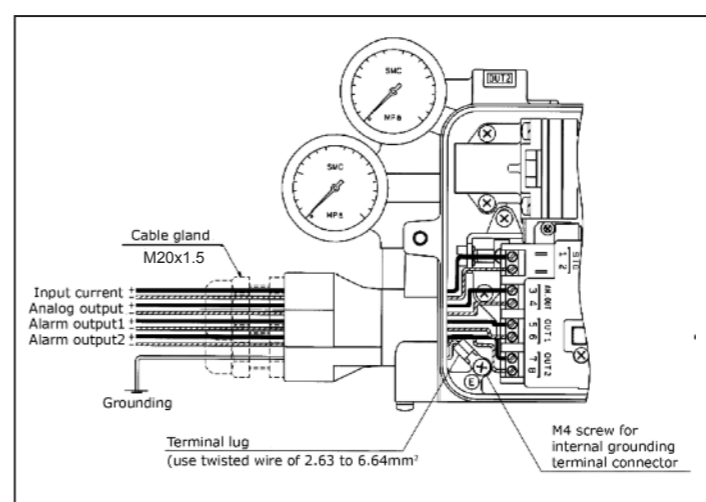

Fig. 7
- Connect the input current wiring from an adjusting meter (controller) and connect each output wiring following Fig. 7. The input port of the electrical connection is equipped with a (blue) cable connector M20x1.5.